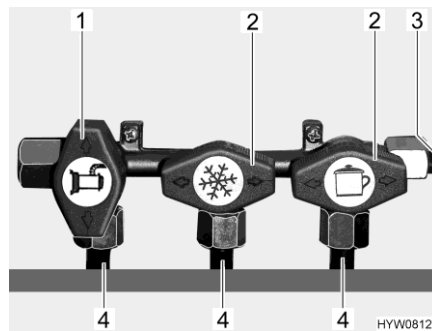

Fig. 111 Gas isolator taps position (example)
- Position the gas isolator tap of the corresponding gas device parallel (Fig. 111,1) to the pipe (Fig. 111,4) leading to the gas device.
- Position the gas isolator tap of the corresponding gas device transverse (Fig. 111,2) to the pipe (Fig. 111,4).